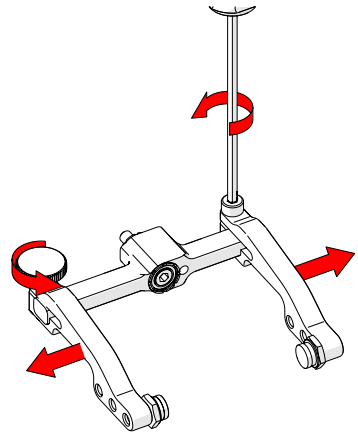

Fig. 122 - Remove probe holder arms
3. Loosen the probe holder arm adjustment knob and the arm clamp screw. Slide the probe holder arms off the yoke (Fig. 122).